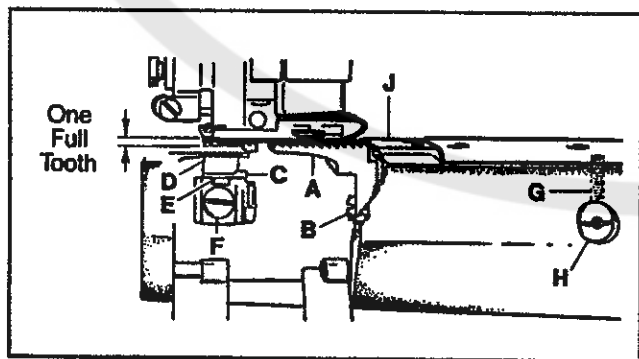

FIG. 16
Install the differential feed dog (A, Fig. 16) with screw (B). Attach rear needle guard (C) to main feed dog (D), pushing in fully to the rear and tighten screw (E). Install main feed dog with screw (F).